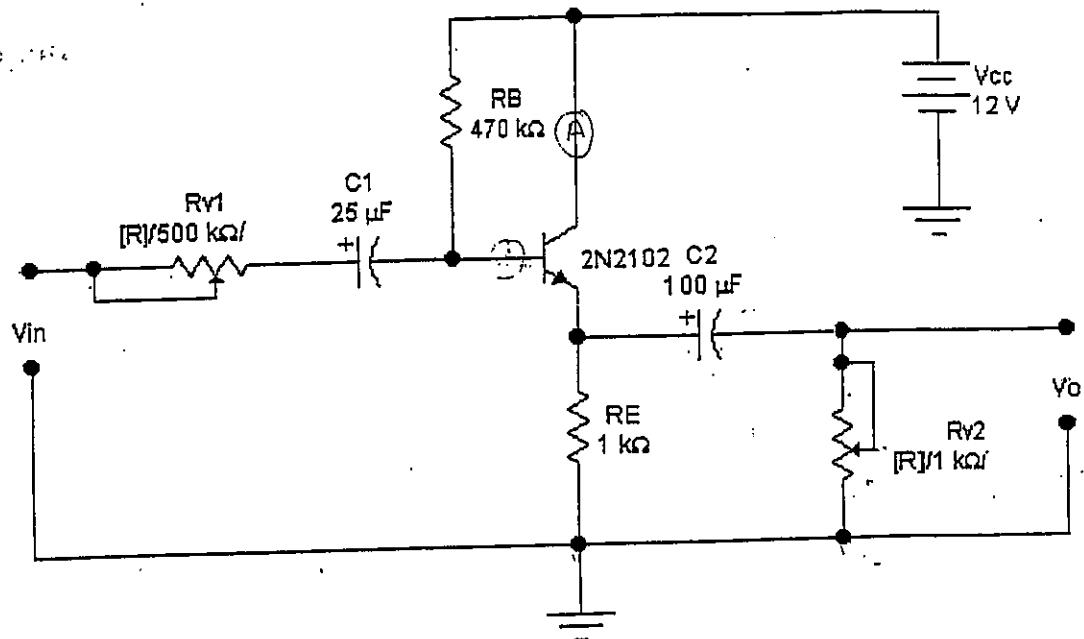

Fig 8.2
- 1- Set up the circuit of Figure 8.2 using (Electronics Workbench Software), make shore that the 500-k ohm potentiometer is set to zero ohm.